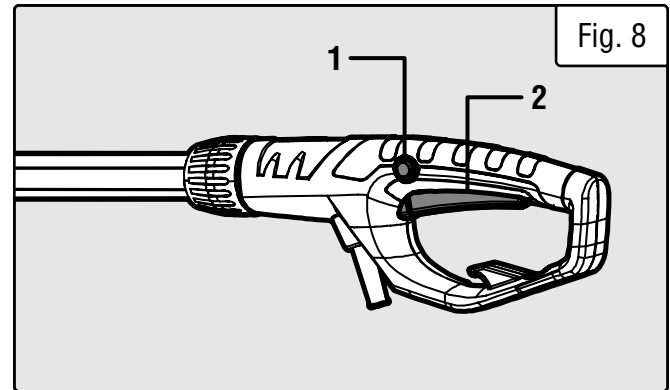

Fig. 8
1. Unlock the shaft couplings (Fig. 8 - 1) to adjust the length of the extension poles by turning them counterclockwise.
To turn the tool ON: Press the trigger lock (Fig. 8 - 1) while simultaneously pulling the power trigger (Fig. 8 - 2) to start the pole saw.